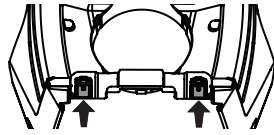

Figure 8
3. Once the hood topper is in place, the two locking tabs near the rear of the hood need to be pushed upward to lock the hood topper in place (Figure 8).